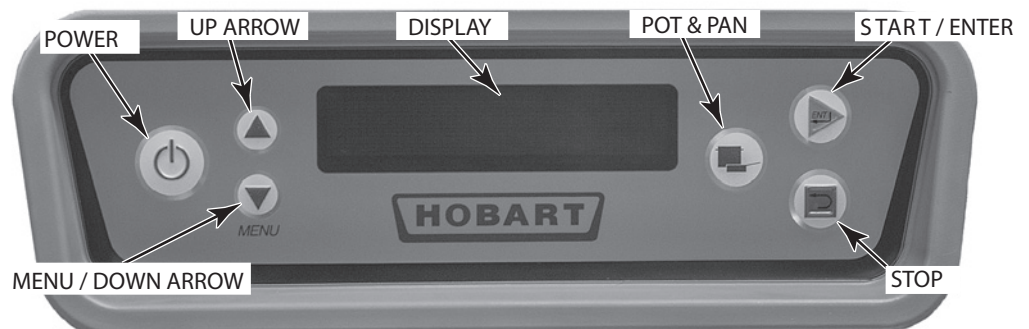

Fig. 26
The controls are mounted on top of the dishwasher. The Keypad and Display are mounted in front of the control box (Fig. 26).
Close all doors. To begin filling after the machine is ready, press the POWER key (Fig. 26).
5. Press the POWER key on the keypad (Fig. 26). Dishwasher will fill automatically (refer to Filling the Dishwasher, this page). After the tank has filled, the burner will ignite if heat is required. The ignition system includes a 15-second pre-purge period before ignition occurs.
6. If the dishwasher will not operate, press the POWER key on the keypad (Fig. 26) and turn the manual gas valve Off. Call your local Hobart service office or gas supplier.
After the machine has filled, start the pumps by pushing the START / ENTER key on the keypad (Fig. 26) or by inserting a rack into the machine.
The conveyor dwell feature, standard, allows the operator to stop the conveyor in order to wash heavily soiled dishes for a longer time. Press the DOWN ARROW located on the keypad (Fig. 26) until the '<' symbol is shown to the left of 'CONVEYOR DWELL'. When the dish rack reaches the wash zone, press the ENTER key on the keypad (Fig. 26) to momentarily stop the conveyor. To restart the conveyor, press the START/ENTER key on the keypad (Fig. 26).
If the rack jams or if the load becomes excessive, an overload mechanism shuts off the conveyor drive motor and 'Clear Conveyor Jam' displays. Open the doors and remove the jam. After the jam is cleared, close the doors and push the START / ENTER key on the keypad (Fig. 26) to restart the dishwasher.
All tank temperatures are shown on the Display (Fig. 26) when the machine is in operation. The Final Rinse temperature displays ---- until a rack is in the rinse zone; then, the Final Rinse water temperature displays. After the ware exits the rinse zone, the Final Rinse temperature display returns to ---- .
The pot and pan feature, standard on all CLeN models, allows the operator to wash heavily soiled pots and pans by indexing the racks thru two pre-set wash zones for a specified amount of time. The wash times can be adjusted in the Parameters Menu, refer to page 35. Push the POT and PAN key located on the keypad (Fig. 26) to enter the pot and pan mode. Insert rack into machine. The rack will index thru machine by the pre-set time. The machine will return to normal operation by pressing the POT and PAN key or the STOP key, or if the Auto Timer times out.
To conserve energy, if no rack enters the machine for a preset amount of time, the Auto-Timer counts down and the pumps and conveyor shut off. Tanks continue to heat, and tank temperatures display. To resume operation, insert a rack or press the START / ENTER key on the keypad (Fig. 26).
After a period of machine inactivity, the control initiates Energy Saver Mode (ESM): All warewasher components are turned off, and the display on the control dims, displaying 'Energy Saver Active / Press STOP to Exit'. To exit Energy Saver Mode, press the STOP key (Fig. 26). You may press the POWER key to completely turn the machine off. The period of machine inactivity prior to ESM can be set from 1 to 6 hours in the Parameters Menu; 2 hours is the factory setting. Refer to page 35.
1. Press the POWER key on the keypad to turn the machine Off (Fig. 26).